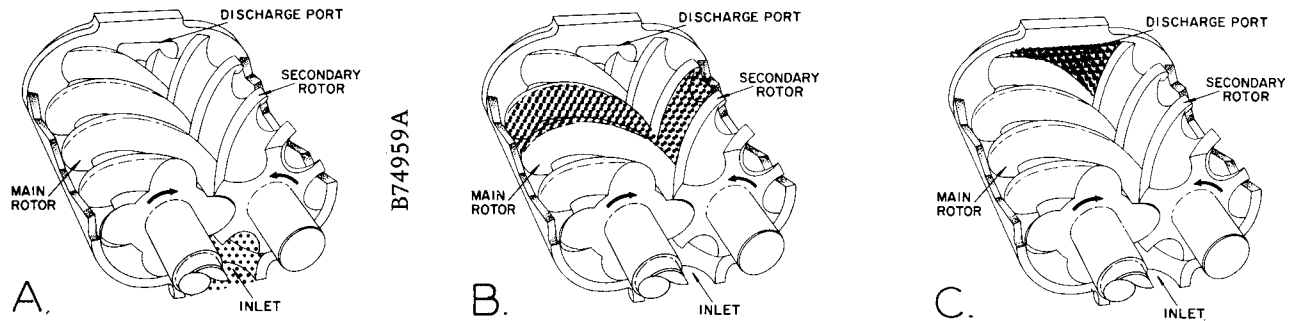

FIGURE 1-1. — COMPRESSION CYCLE
COMPRESSION PRINCIPLE (Figure 1-1) — Compression is accomplished by the main and secondary rotors synchronously meshing in a one-piece cylinder. The main rotor has four helical lobes 90° apart. The secondary rotor has six matching helical grooves 60° apart to allow meshing with main rotor lobes.
The air inlet port is located on top of the compressor near the drive shaft end. The discharge port is near the bottom at the opposite end of the compressor cylinder. Figure 1-1 is an inverted view to show inlet and discharge ports. The compression cycle begins as rotors unmesh at the inlet port and air is drawn into the cavity between the main rotor lobes and secondary rotor grooves (A). When the rotors pass the inlet port cutoff, air is trapped in the interlobe cavity and flows axially with the meshing rotors (B). As meshing continues, more of the main rotor lobe enters the secondary rotor groove, normal volume is reduced and pressure increases. Oil is injected into the cylinder to remove the heat